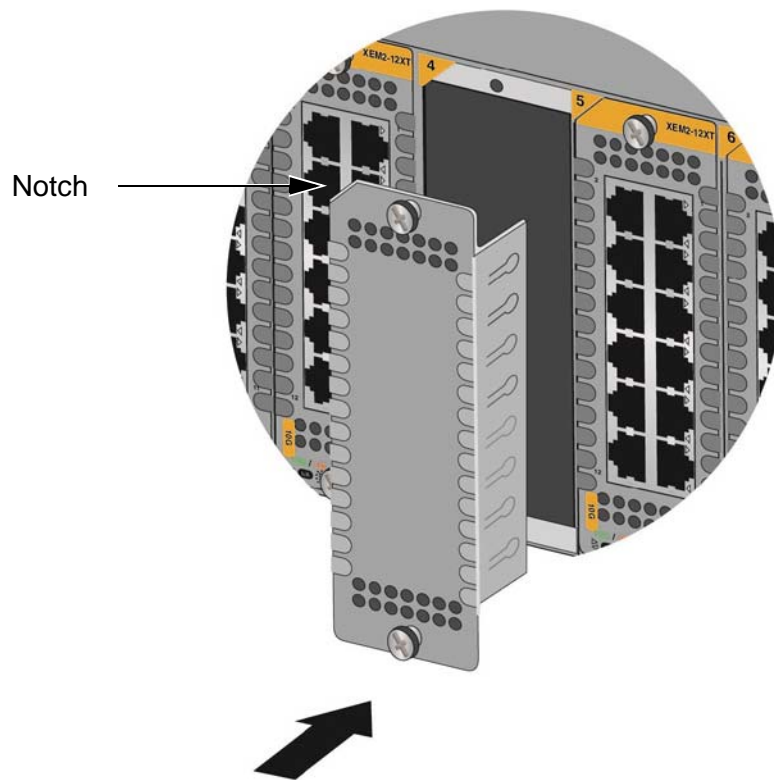

Figure 41. Installing a Blank Slot Cover
1. Position the blank slot cover with the notch in the upper left and slide it into the empty slot. Refer to Figure 41.